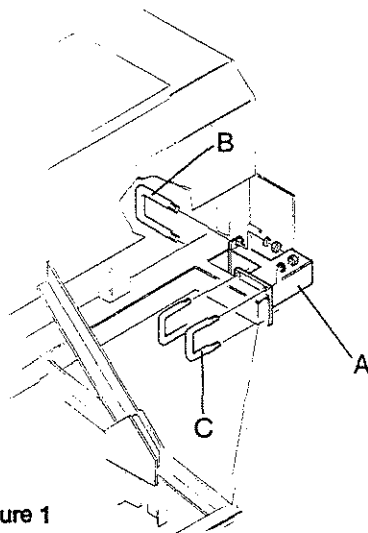

Figure 1
1. Attach Marker Mount Adapter (A) to drill frame using $\frac{5}{8}$ " x 4" x $5\frac{1}{4}$ " long U-bolts (B), and to Gauge Wheel Support Tube using $\frac{5}{8}$ " x 4" x $3\frac{3}{8}$ " long U-bolts (C) as shown in figure 1.